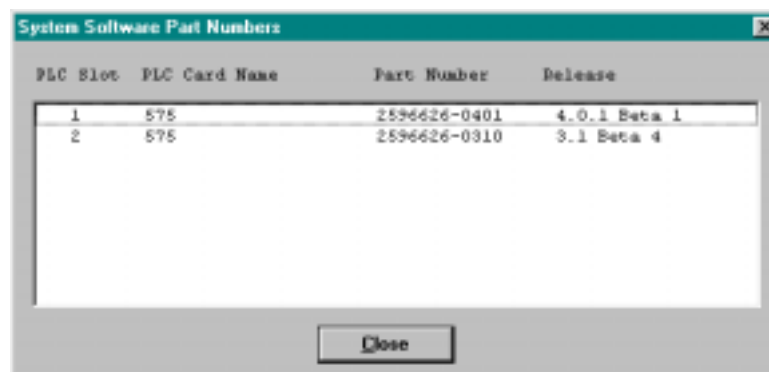

Figure 6.12b
1. Click **S**ystem Part **N**umber from the PLC **U**tilities menu (Alt+U, N). The System Part Number dialog box appears (Figure 6.12b). The part number and release for each card, along with the slot number and name of the card, displays as shown.